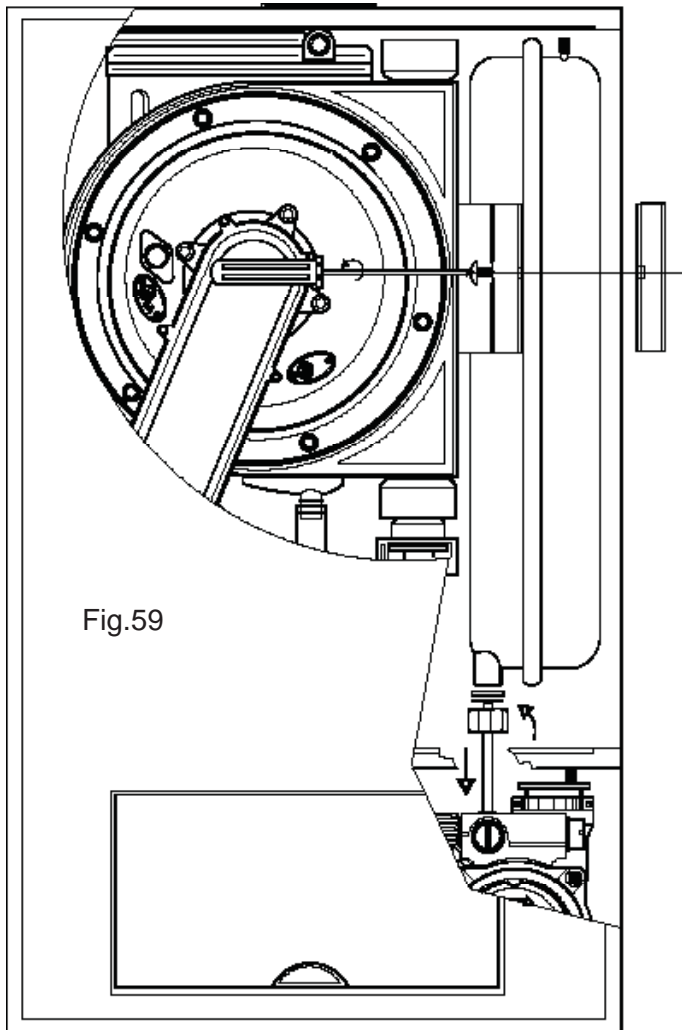

Fig.59
8.12 TO REMOVE/REPLACE EXPANSION VESSEL (Fig.59).